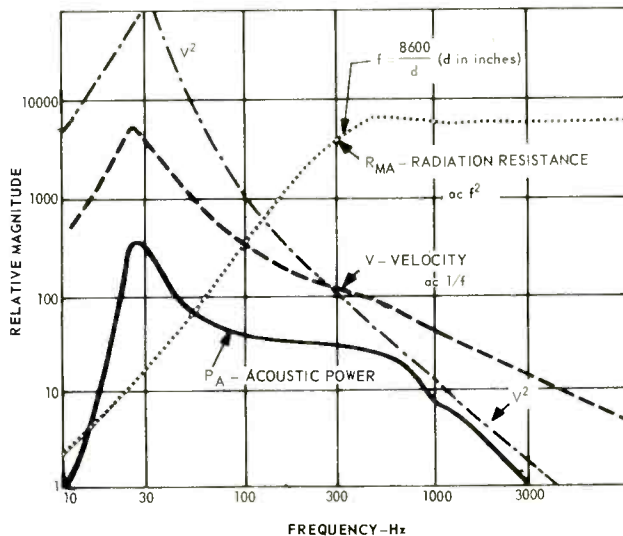

Fig. 2—Calculated performance of piston as direct radiator.
Over the flat section of the frequency response curve shown in Fig. 2, the motion of the cone per unit of applied force is determined almost entirely by the mass of the moving system:
Equation (2) shows that cone velocity is inversely proportional to frequency. Figure 2 depicts this variation. The dashed curve shows how  $v^2$  varies with frequency. The radiation resistance,  $R_{MA}$ , is a function of the square of the frequency, as shown by the dot-dash line. Now, referring to equation (1), the acoustic power output is derived as follows:
This is seen in the power-frequency response curve of Fig. 2. Suppose the voice coil mass plus cone and air load mass equals .03 kg. At 400 Hertz, where the frequency response is flat, the reactance of the mass is
This leaves the factor  $R_{MA}$ —the radiation resistance. Since  $R_{MA}$  increases proportionally to the area of the speaker, it is a simple matter to make it larger. But increasing the size of the cone raises its mass: rather rapidly, in fact, because the thickness has to be increased as well to maintain adequate stiffness. This works to counteract the increased efficiency obtained by the larger cone. Also, as examination of the frequency response curve of Fig. 2 discloses, the point at which the high-frequency response falls off is lower the greater the cone diameter. For a theoretically perfect piston, the drop in response begins at  $f = 8600/d$  where  $d$  is the piston diameter in inches. Thus, a 10-inch piston begins to drop in response at 860 Hertz, a 15-inch diameter results in a 573-Hertz transition point, and so on ---- downwards.